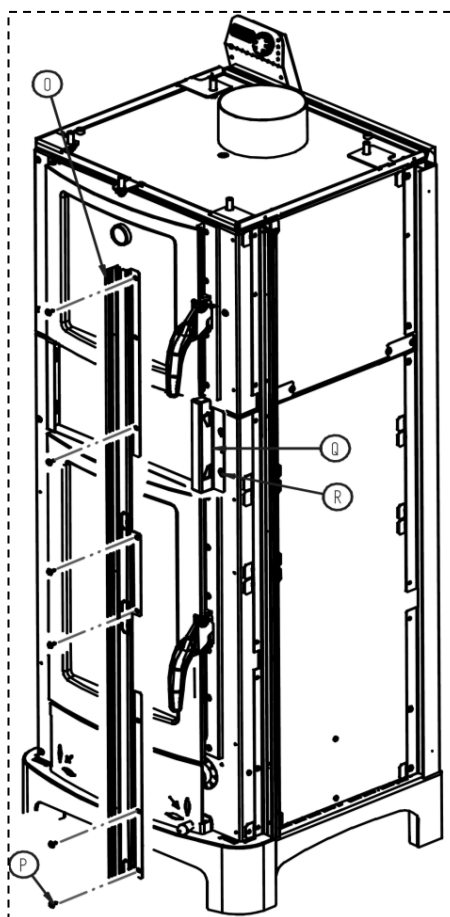
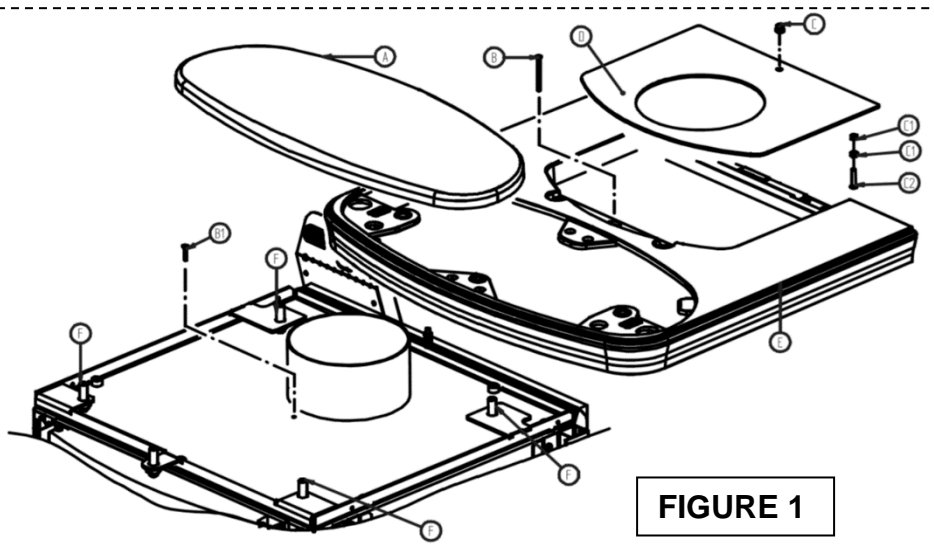

FIGURE 2
FIGURE 1
- 2) Remove the cover **D** by unscrewing the screws **C-C1-C2** (figure 1).
- 3) Undo screw **B** and remove the cast iron cover **E** (figure 1), screw in screw **B1** (supplied) in the hole freed by screw **B**.
- 4) Undo screws **P** and remove the ceramic supports **O** (figure 2).
- 5) Undo the 4 screws **R** and remove the support **Q** (figure 2).
- 9) Next, place the cast iron cover **E** and raise or lower it by means of the screws **F** (figure 1).
- Clean the inner surfaces of the flue gas path and the tube bundle. To do so, open the feed door, remove the vermiculite tile (figure 1) and open the S plug, which in model ARDHEA-F EVO5 is located at the back (figure 2), whereas in model ARDHEA EVO5 it is located under the cast iron cover (figure 3).